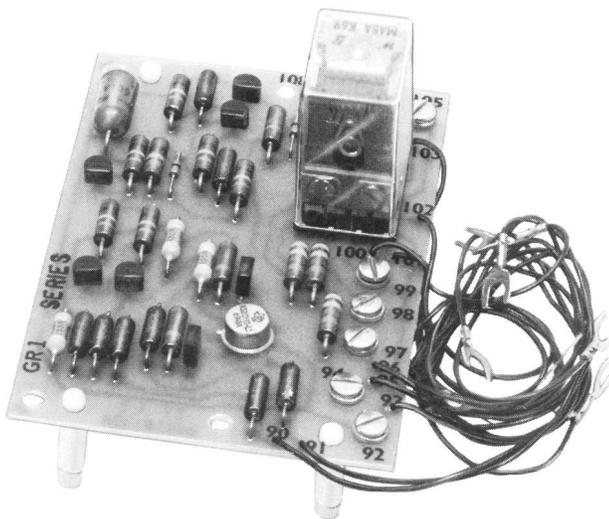

Fig. 2—GR1 Circuit Pack
2.03 The optional L1/5 feature is provided by a GR1 circuit pack that snaps on and is wired into the basic data set 109H-L1. The GR1 circuit pack is shown in Fig. 2 and provides loop current supervision (RS).